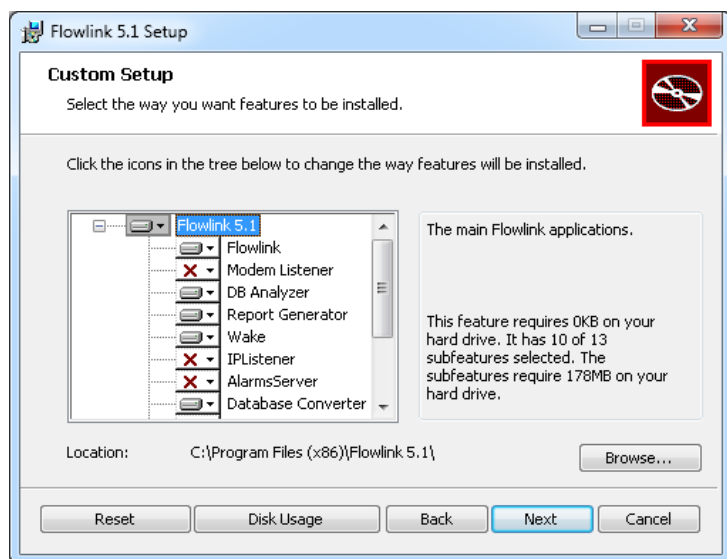

Figure 2-3 Select Features screen
7. If the “Custom” setup type was selected in the previous step, the Select Features box is displayed (Figure 2-3).